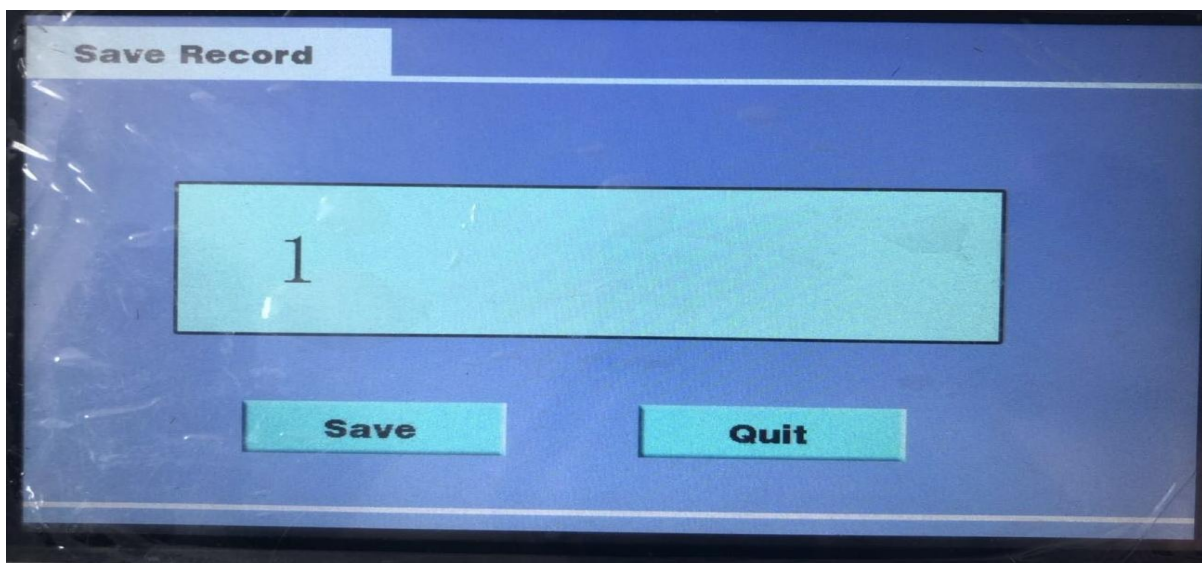

Fig 18 Data Storage Interface
1) Test data can be stored after testing. Click on the "Storage" button with a touch-screen pen or finger. Fig 18 appears.